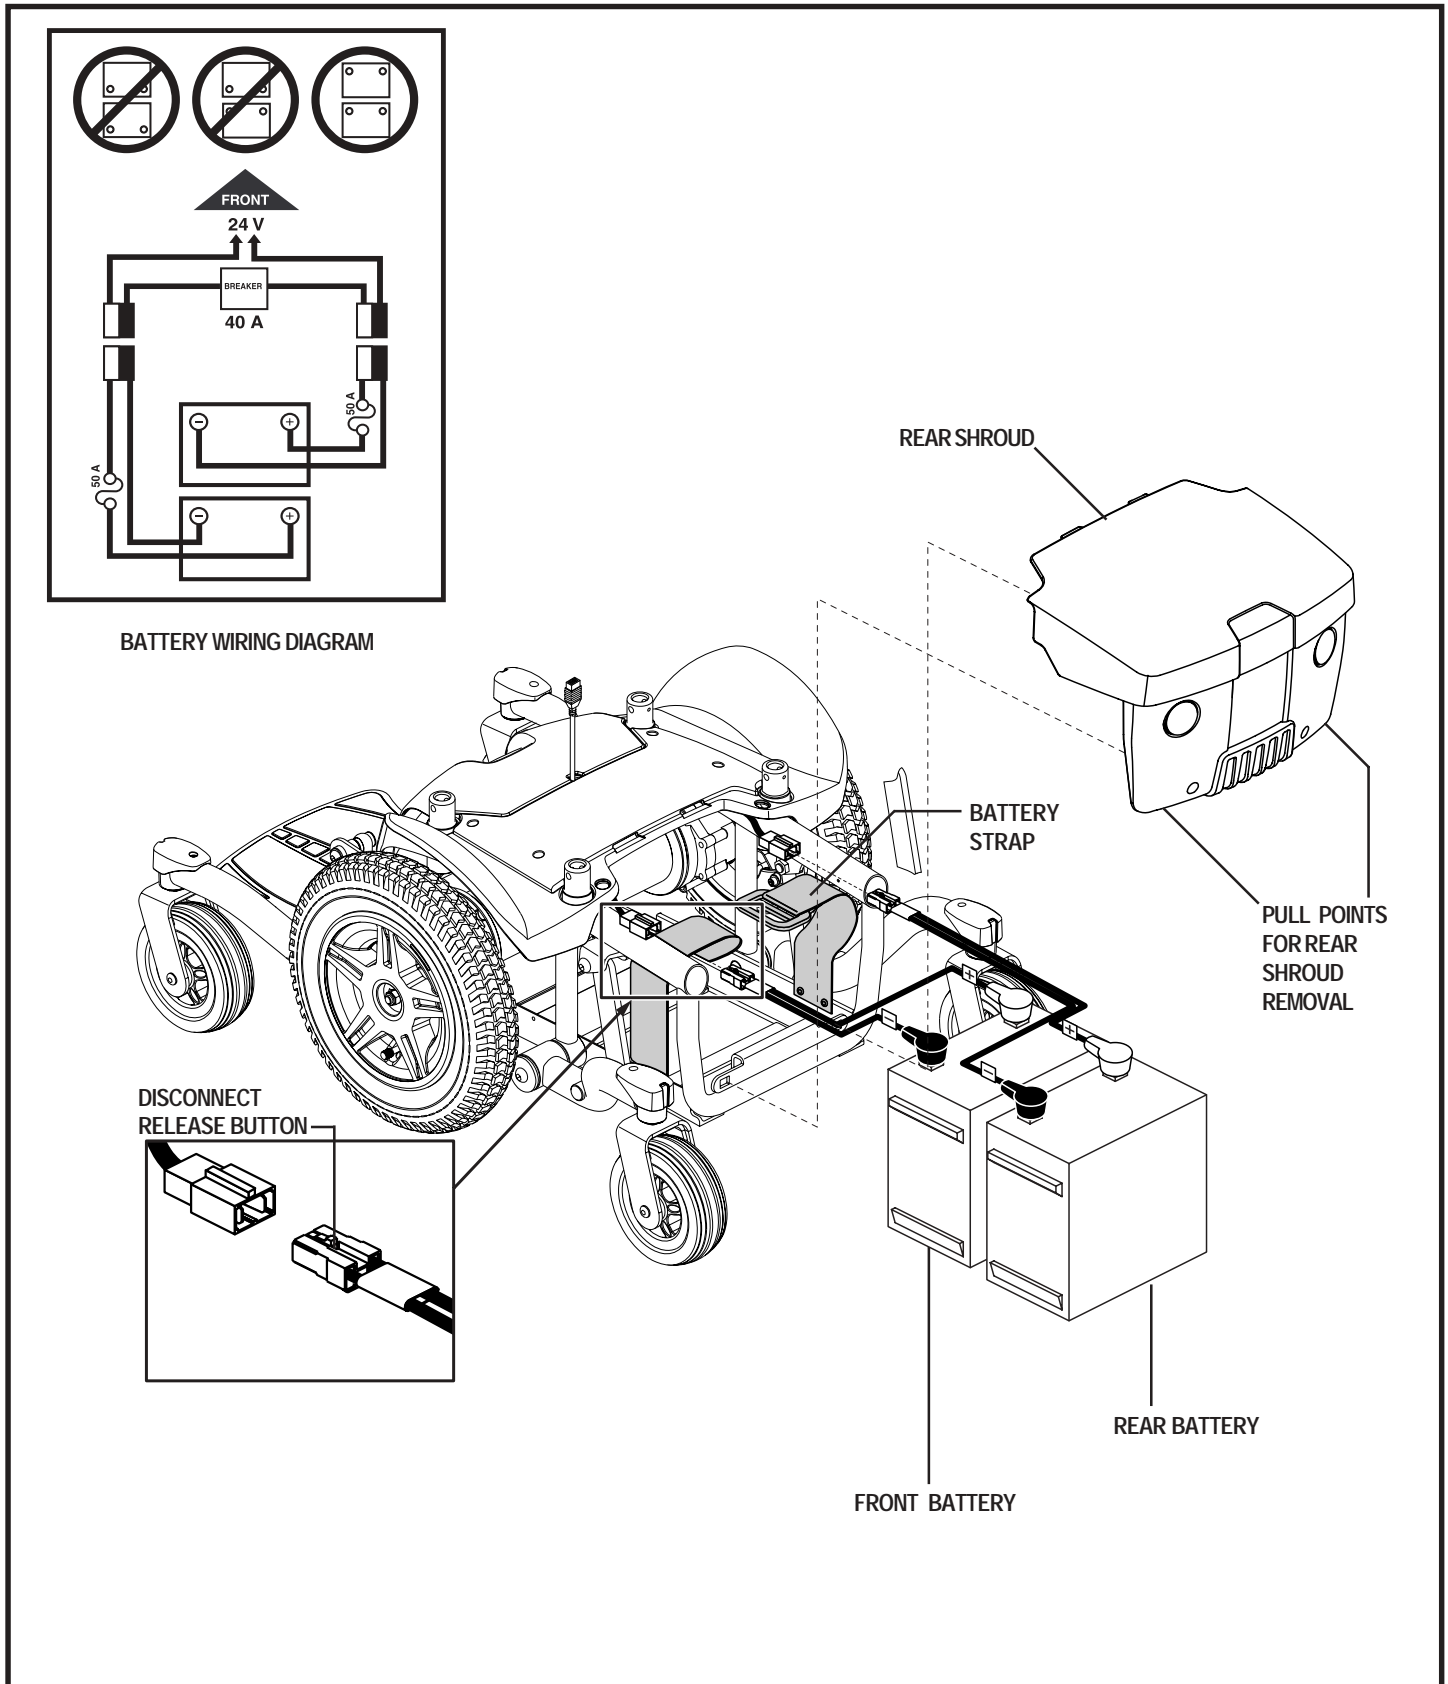

Figure 22. Battery Installation
A battery wiring diagram is printed on a decal located on the front battery tray. See figure 22. See VI. "Batteries and Charging" for correct battery specifications.
3. Pull to remove the rear shroud. See figure 22.
4. Push down on the disconnect release button and disconnect the rear battery harness from the power base. See figure 22.
7. Push down on the disconnect release button and disconnect the front battery harness from the power base. See figure 22.
10. Install a battery harness onto each new battery according to the battery wiring diagram. See figure 22. Make sure that you connect the red wire to the positive (+) battery terminal and the black wire to the negative (-) battery terminal for each battery.